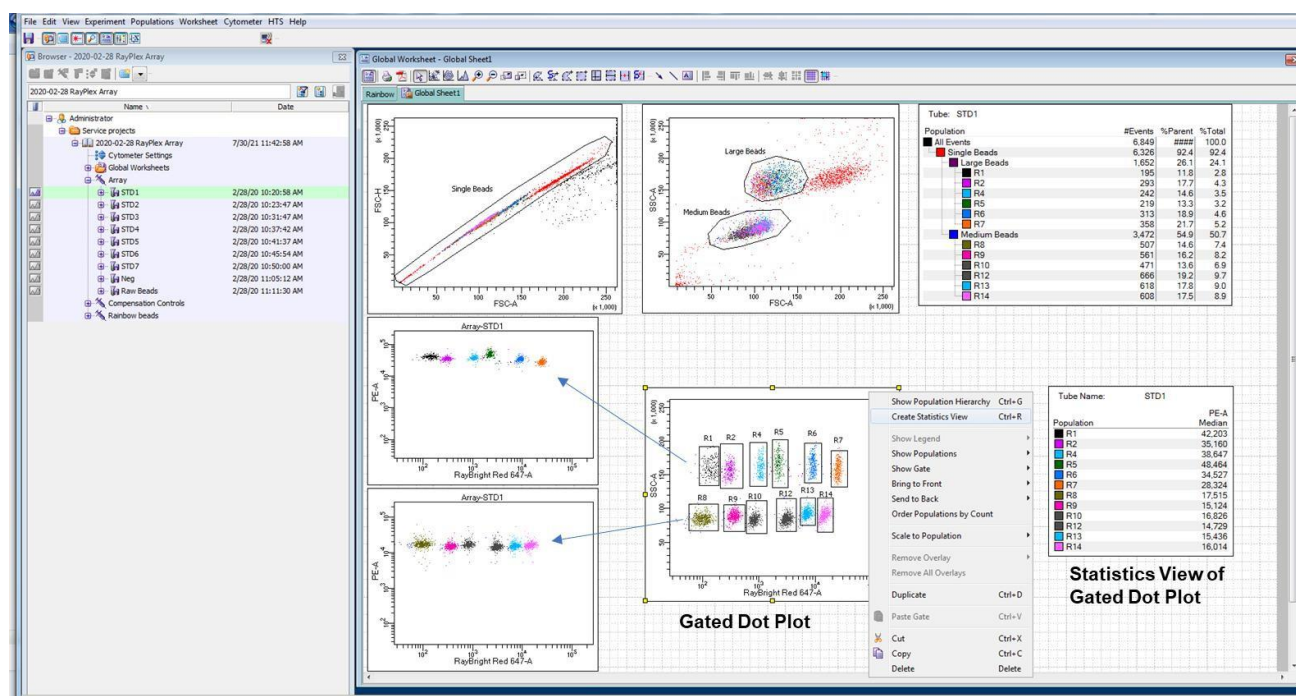
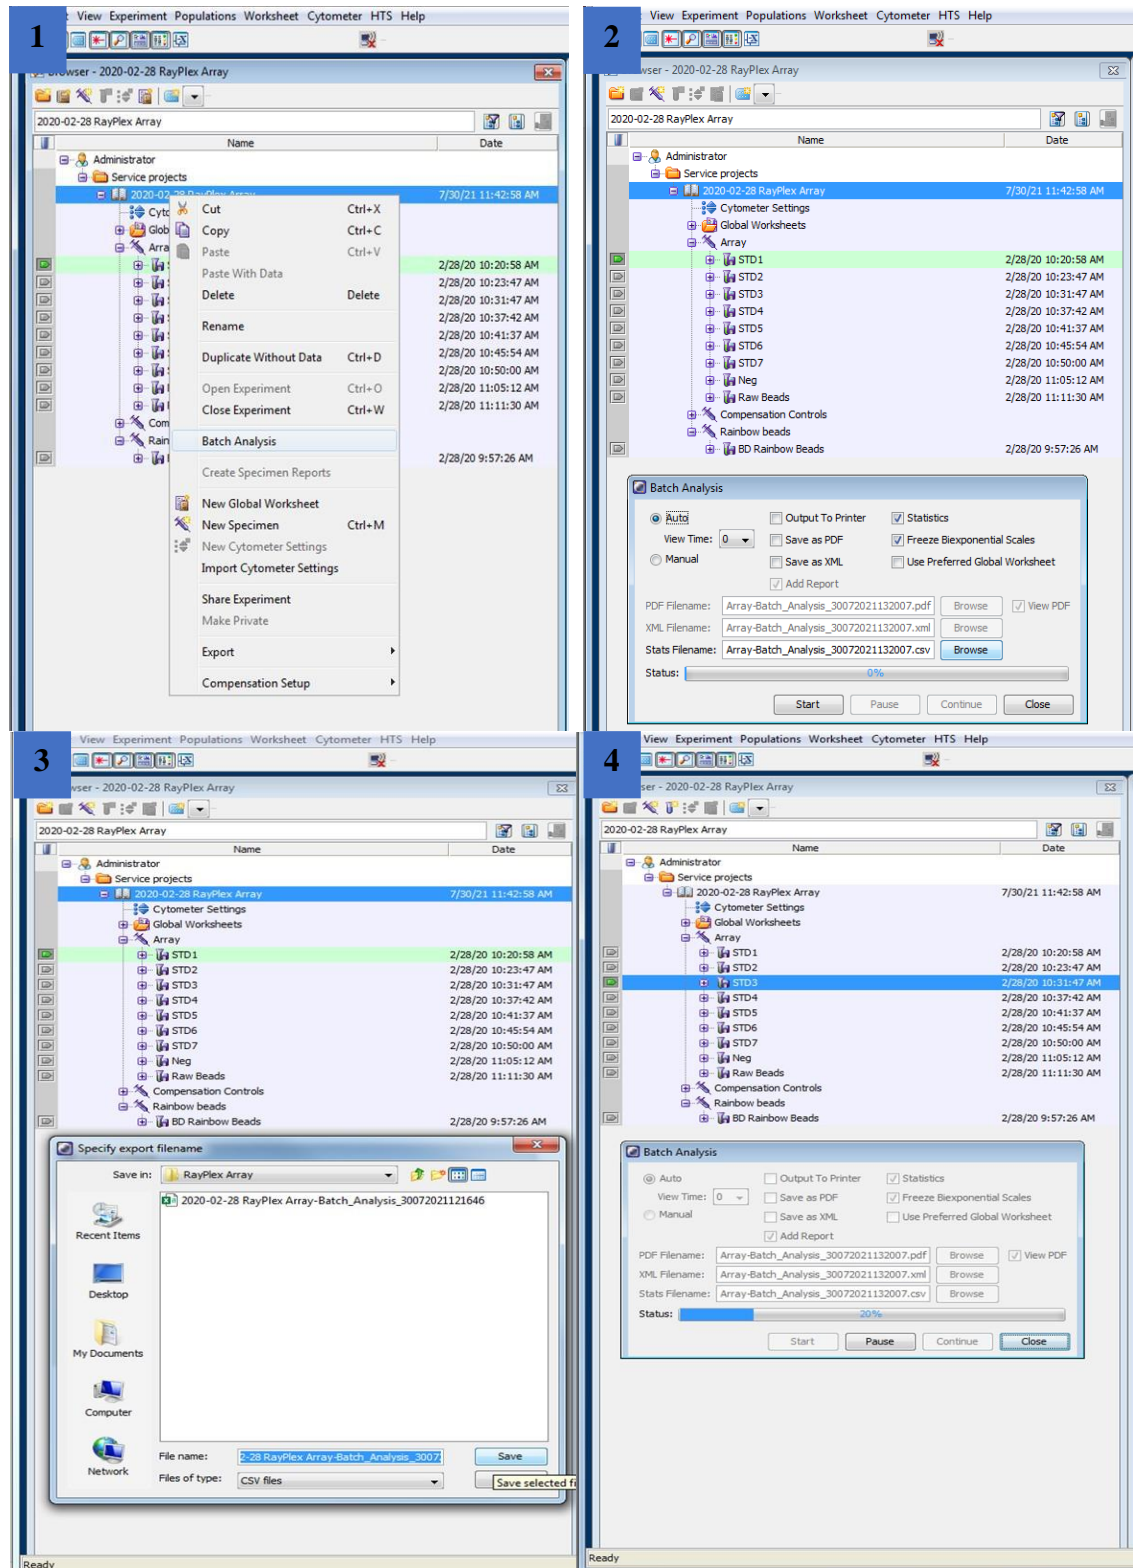

Figure 4. Screenshot of “Creating Statistics View” from the dot plot of gated beads populations. This is representative data only.
Figure 5. Screen shot showing how to begin the batch analysis through manual tube mode.
Batch analysis allows exporting PE MFI data of each bead population directly from FACS Diva. Before batch analysis, it's important to create statistics view from the dot plot of gated beads populations and choose "PE-A Median" to be shown (Figure 4). Batch analysis can be done in either manual tube mode or HTS mode. Both methods for batch analysis are described below (Figure 5 and 6).
1. Create a dot plot by SSC-A (linear) and APC-A (log) to show all beads populations and make a gate for each population (see figure 4, “Gated Dot Plot”, R1~R14). Right click on the dot plot to “Create Statistics View,” then edit the statistics view so that “PE-A Median” of gated beads populations are shown (figure 4, “Statistics View of Gated Plot”).